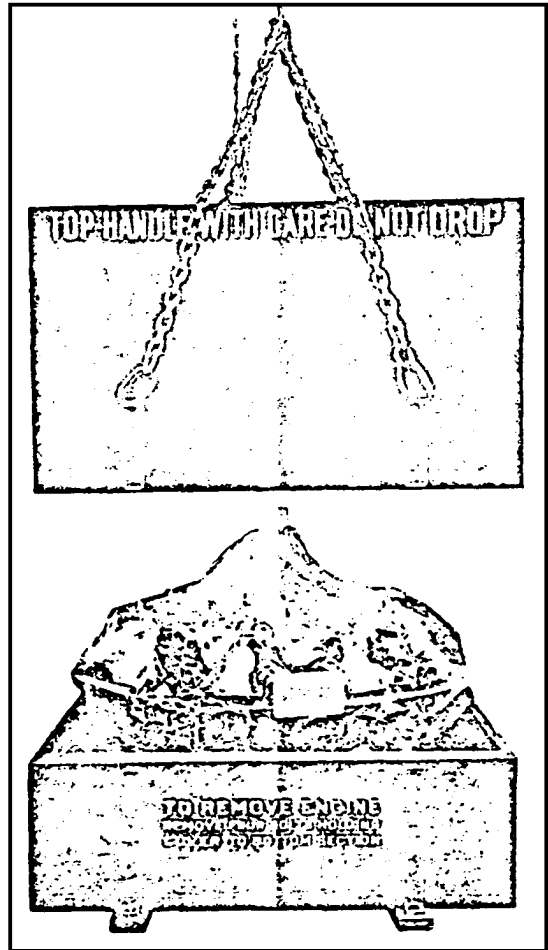

FIGURE 22—Lowering Shipping Box Cover
21. Lower the engine shipping box cover in such a manner as not to rupture the envelope. (Refer to figure 22.) The cover shall be provided with a hinged inspection port through which to observe the humidity indicator.